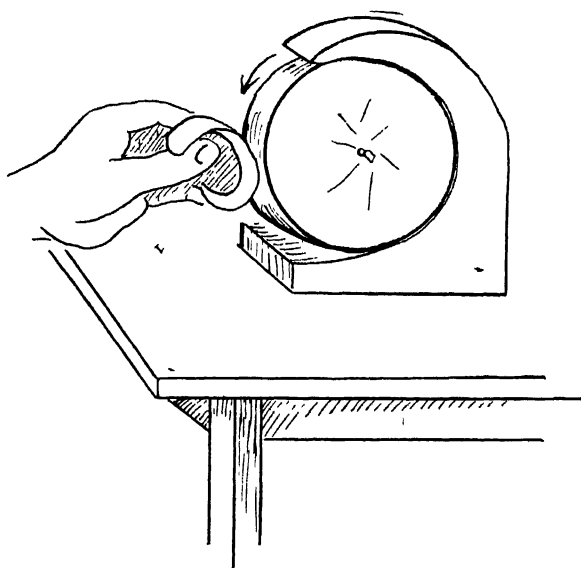

Fig. 4—Using Polishing Wheel
*Bright.* The metal can be given a bright finish. This means a high polish on a buffing wheel. Use a stitched muslin wheel with tripoli. Start the polishing motor, touch the wheel with the tripoli stick for a moment and then press the metal against the wheel until a high polish is attained, replenishing the tripoli on the wheel from time to time. (Fig. 4.) *Caution.* The wheel should revolve at a high speed—about 2000 R.P.M.—toward you. The polishing is done below the centre of the wheel. Always polish from the centre of the work toward the lower edge. Never allow the wheel to touch the upper edge of the work, as it is liable to strike the work from your